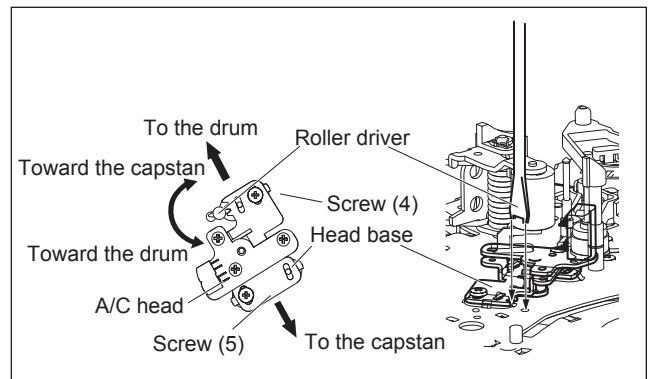

Fig.4-2e
- (1) Play back the alignment tape (A1).
- (2) Apply the external trigger signal to D,FF (E), to observe the V.PB FM waveform at the measuring point (D).
- (3) Set the VCR to the manual tracking mode.
- (4) Loosen the screws (4) and (5), then set the Roller driver to the innermost projected part of the A/C head. (See Fig. 4-2e.)
- (5) Rotate the roller driver so that the A/C head comes closest to the capstan. From there, move the A/C head back gradually toward the drum until the point where the FM waveform is maximized for the second time, and then tighten the screws (4) and (5) temporarily.
- (6) Play an alignment tape (A2) and set to the manual-tracking mode.
- (7) Fine-adjust A/C head base position to maximize the FM waveform, and then tighten the screws (4) and (5) firmly.
- (8) Play alignment tapes (A1) and (A2) and confirm that the FM waveforms are maximized when the tracking is at the center position.